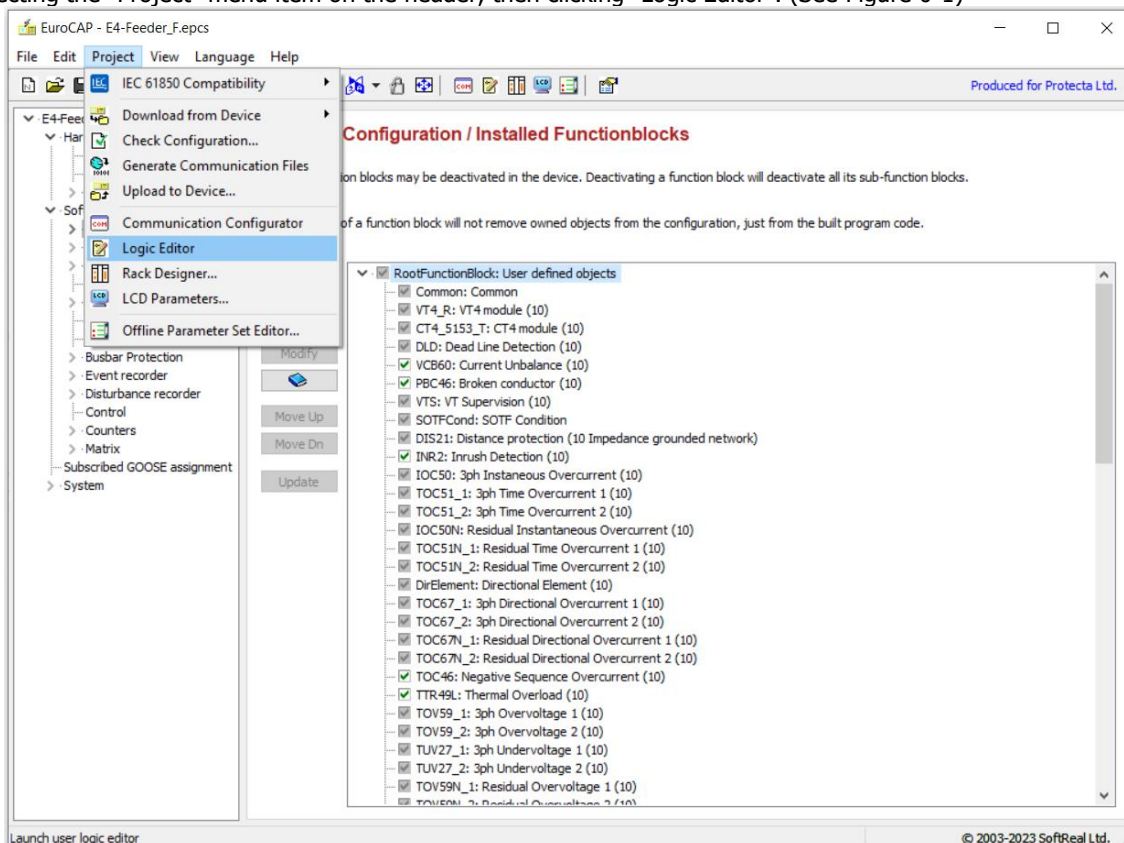

Figure 0-1 Opening the graphical logic editor
- selecting the "Project" menu item on the header, then clicking "Logic Editor". (See Figure 0-1)